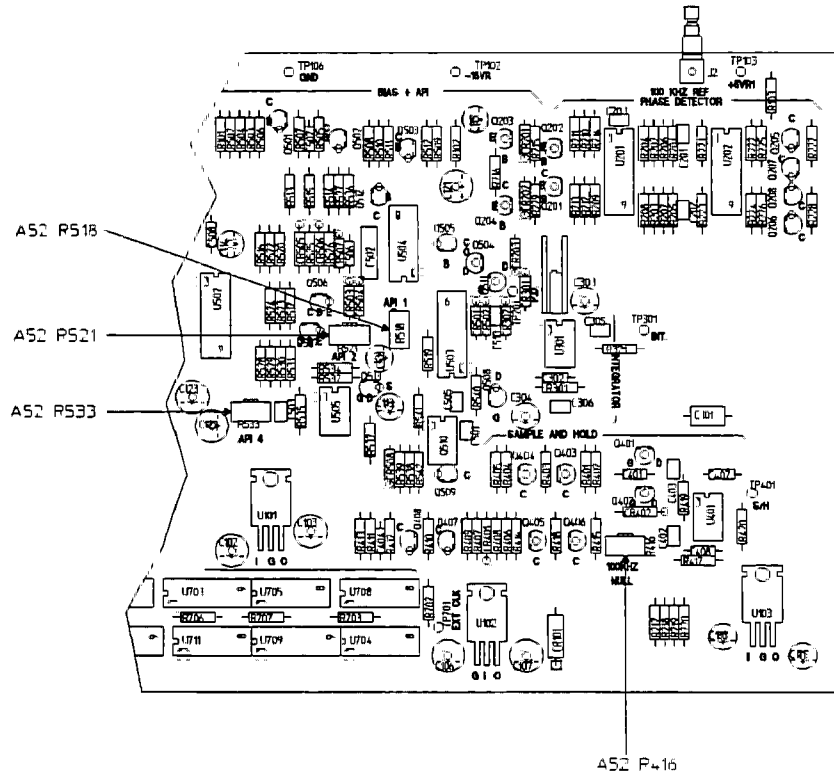
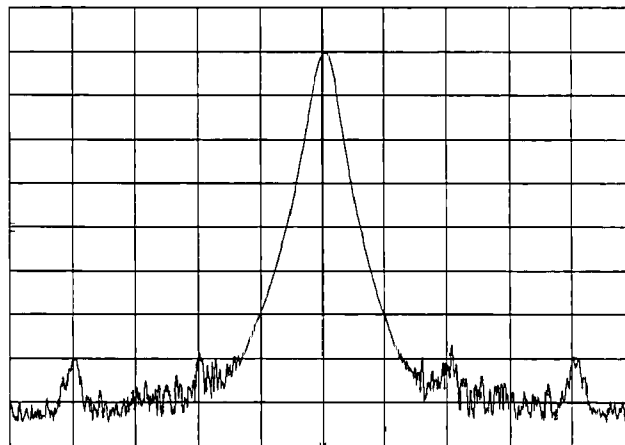

Figure 1-3. A52 Fractional-N Component Locator
Figure 1-4. Spurs Out of Adjustment
- 6. Adjust A52 R416 (see figure 1-3) for a minimum spur level at approximately 400.2 MHz (figure 1-4 shows the spurs out of adjustment).